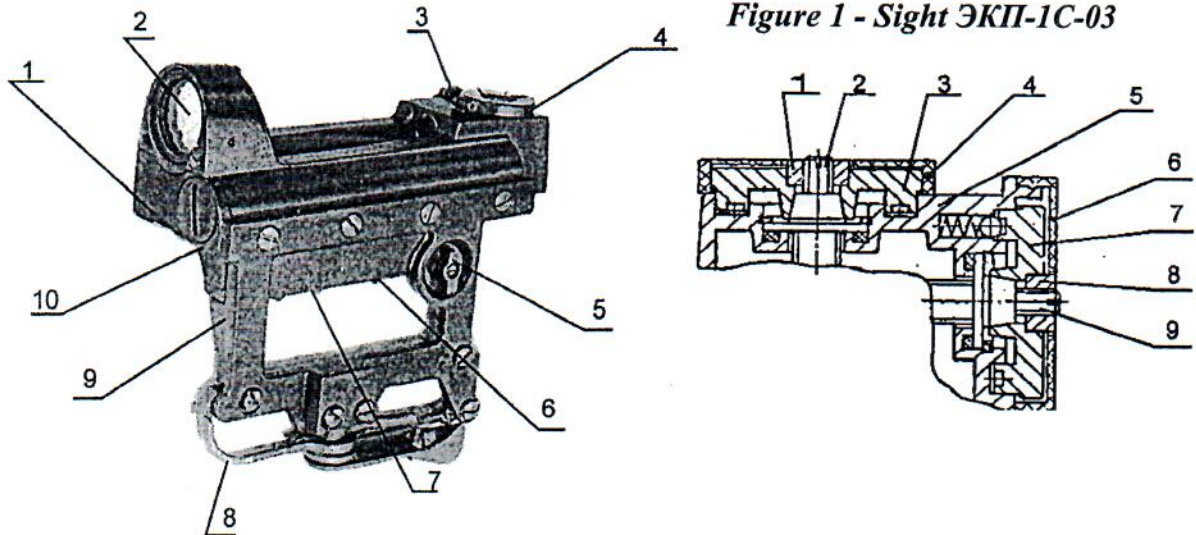

Figure 1 - Sight ЭКП-1С-03
5.1 The sight consists of the following parts (Figure 1): body 1; reflector 2; windage and side correction dial 3 (on the right); elevation and engagement distance dial 4; on-switch 5; mark selection button 6; mark brightness button 7; sight-to-gun fitting arrangement 8; bracket 9; battery compartment cover 10.
5.3 When power on, the signal is fed to a LED radiator located in the body 1 (Figure 1) forming a sighting mark (Figure 5). A shooter sees the sighting mark in the reflector optical block 2 (sighting window) (Figure 1).
5.5 To get optimum contrast of the target and the sighting mark under different illumination conditions the sight includes a button 7 for mark brightness adjustment (Figure 1).
5.7 The collimator sight will switch on to the preslected mark type (button 6) and brightness level (button 7), due to a memory feature (on-switch 5 in Figure 1). This allows one to preset an optimum type and brightness of the sighting mark.
7.1.1 To install or replace batteries, turn the cover 10 of the battery compartment (Figure 1) in the «O» (open) direction with the wrench-screwdriver and pull it out from its socket. Then remove the old batteries and install the new ones according to polarity given on the bottom of the sight body. Place the cover 10 into its socket and turn in the «3» (closed) direction until it stops.
7.2 Turn power on/off by turning the handle 5 (Figure 1) to the «B» (on) or the «O» (off) positions. If the sighting mark is not seen upon switching on, we recommend that you press the button 7 in the «+» direction several times or check if the batteries are installed properly.
7.4 Set the optimum brightness of the mark with the button 7 (Figure 1). The button 7 is a double-armed lever. A single push on one of the arms in the «+» or the «-» direction results in brightness increase or decrease by a factor of two (each level is twice as bright as the previous one).
8.10 Set the switch 5 (Figure 1) to the «O» (off) position at the end of operation.